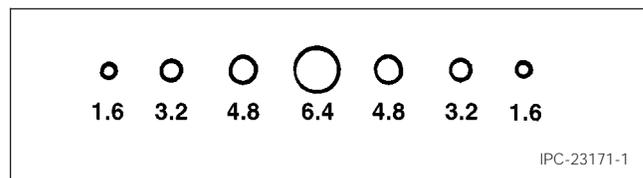

Figure 1 Punched Holes (mm)
4.1 Layup for Adhesives Cast on Coverfilms With the release film intact, punch seven graduating holes across the coverfilm (see Figure 1), then remove release. Alternative punched hole diameters may be agreed upon between user and vendor.